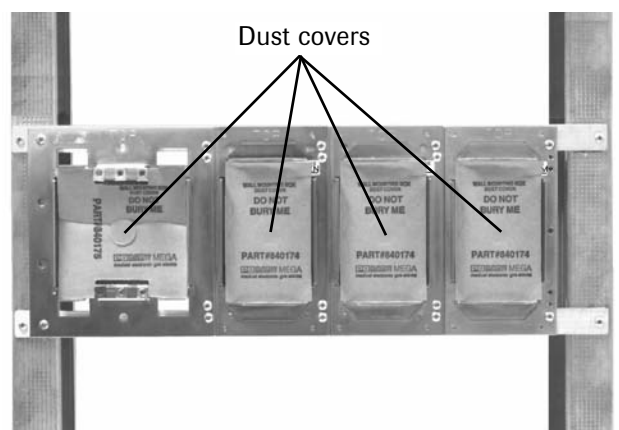

Figure 8. Install Dust Covers
1. Install the dust covers to protect the alarm during the finishing of the walls. Refer to **Figure 8**.